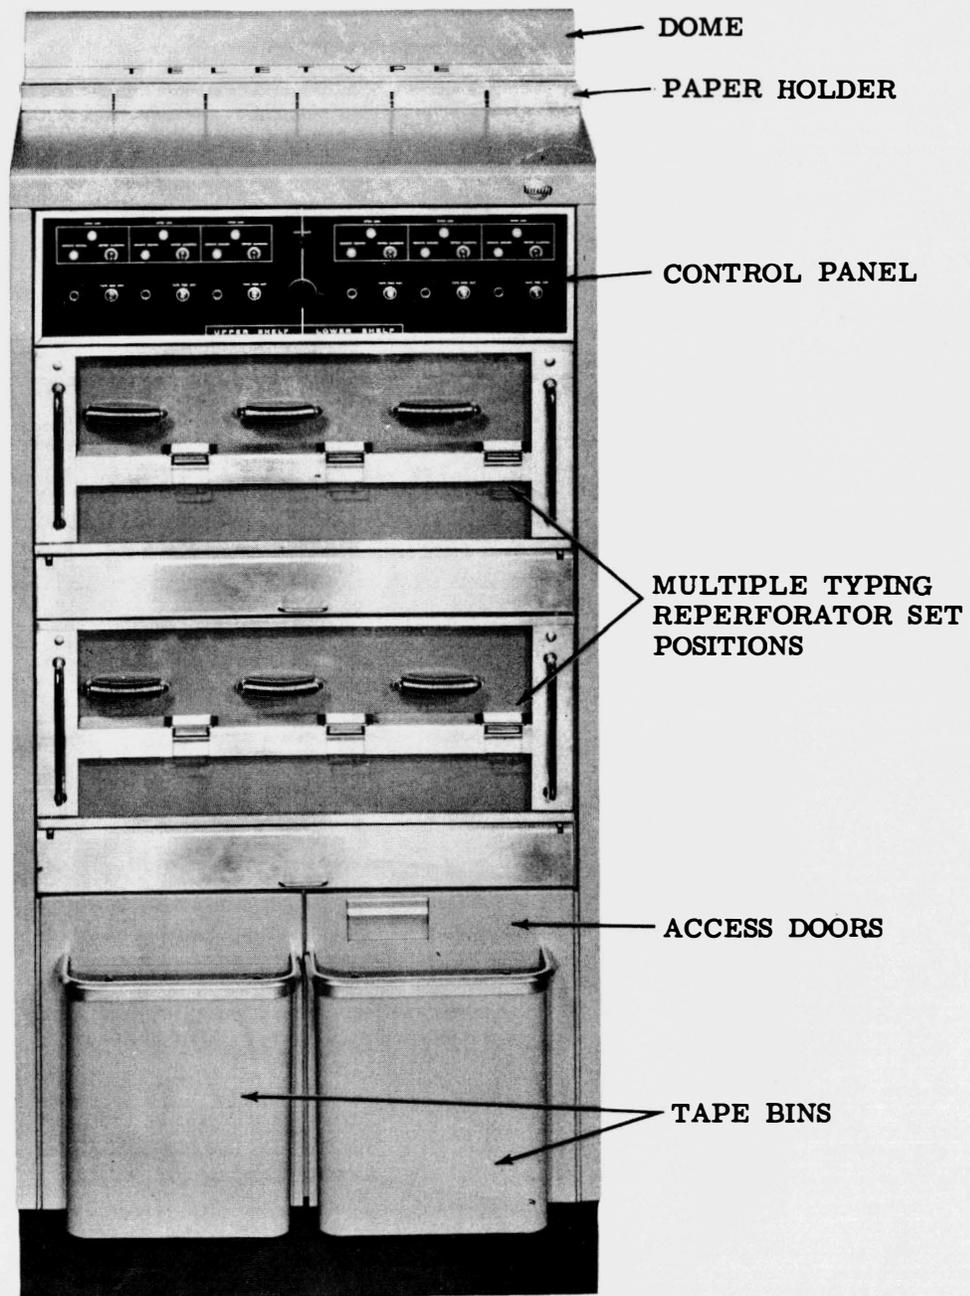

Figure 5 - Typical 28 Multiple Reperforator Set Cabinet
4. MULTIPLE REPERFORATOR SET CABINETS (Figs. 5, 6, and 7)